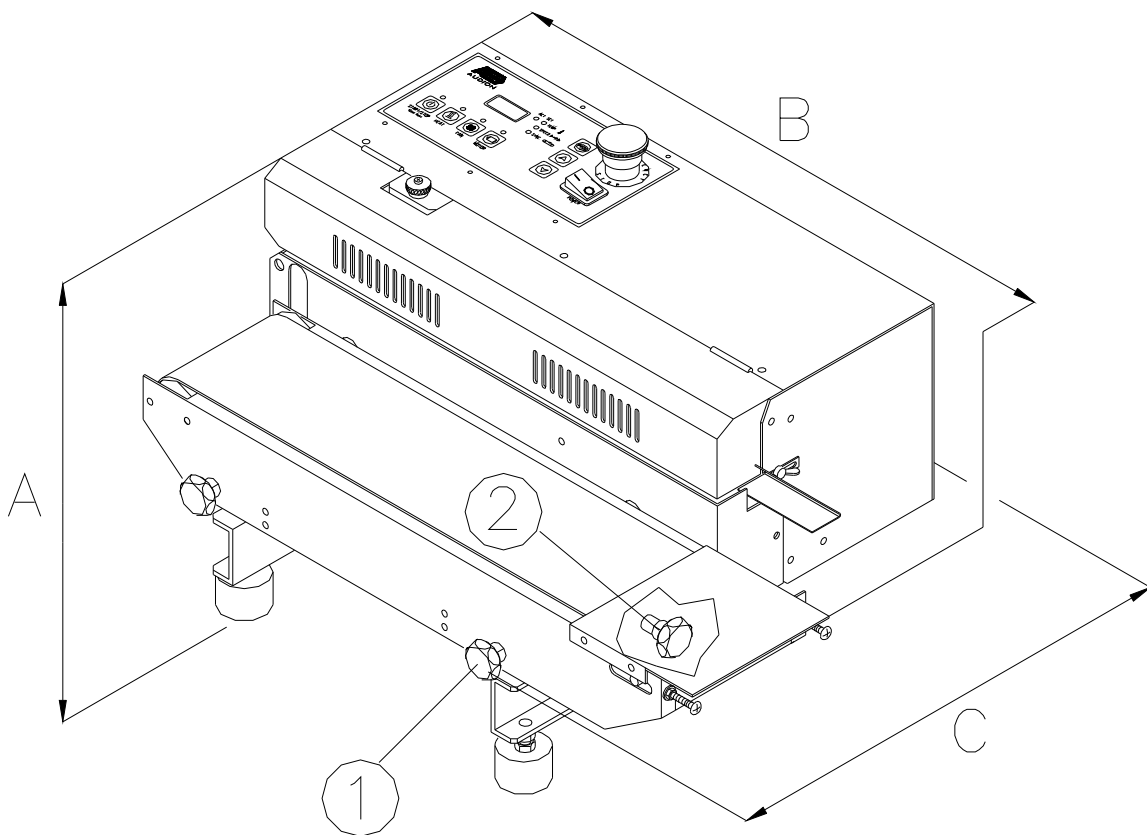

Fig. 2
- Loosen the two knobs (fig. 2 pos 1).